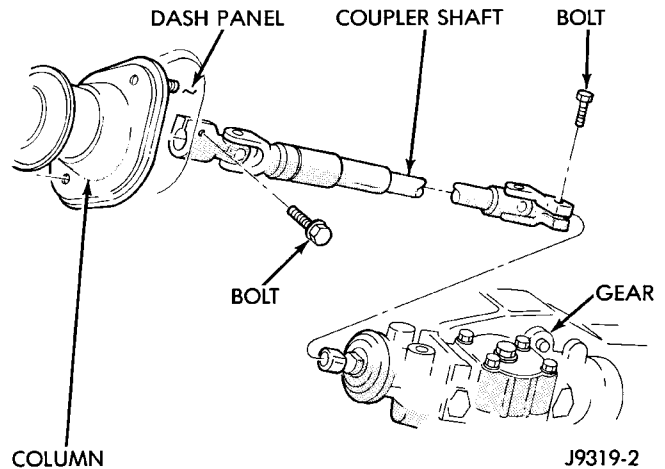

Fig. 2 Coupling Shaft
(1) Place the front wheels in the straight ahead position with the steering wheel centered.
(2) Remove and cap the pressure and return hoses from the steering gear.
(3) Remove the column coupler shaft from the gear (Fig. 2).